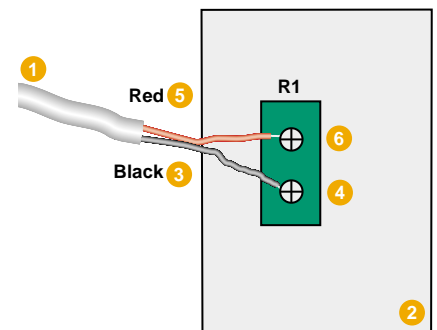

Fig. 3. Wire connections for Input Line Control of controlling instrument.
- Connect the opposite end of the wires (7) to the controlling instrument contact closure or TTL relay (9).
- The instrument used to control the MRA must have one TTL or contact closure output (one event relay). Figure 3 shows wiring the connecting wires (1) from the MRA to the controlling instrument (2) for Input Line Control.
- Connect the black wire (3) from the MRA to the ground terminal (4) of the controlling instrument event relay R1.
- Connect the red wire (5) from the MRA to the control line (6) terminal of the controlling instrument event relay R1.
Input Line Control is used to start or stop the MRA™. The instrument used to control the MRA must have one TTL or contact closure output. Only one event relay is needed. Wiring the connecting wires to the controlling instrument with Input Line Control is shown in Figure 3.